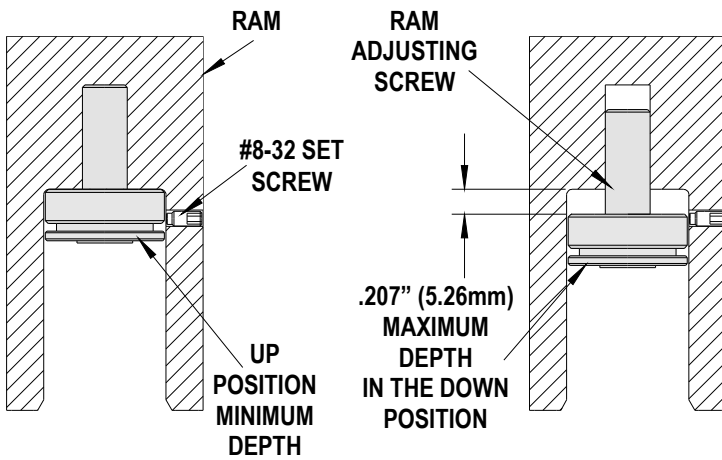

Figure 2-3
2. Loosen the #8-32 set screw in the Ram which locks the Ram Adjusting Screw into place. See Figure 2-3.